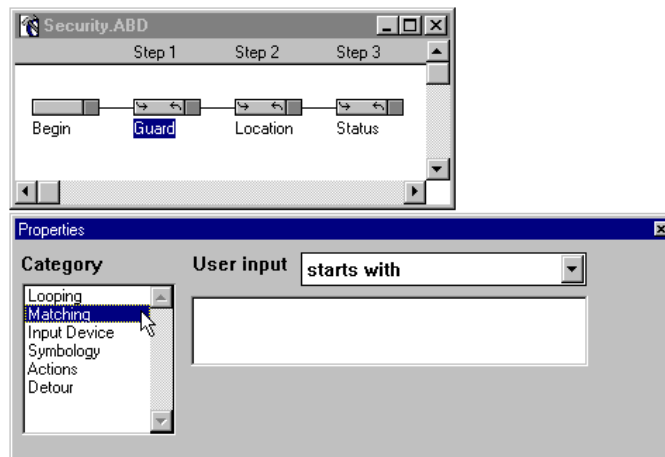

Figure 3-20 “Guard” Handler - Matching Property
18. Select **Matching** from the **Properties** window (Figure 3-20).